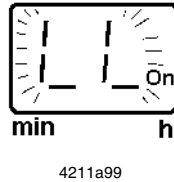

Fig. 28 Display of a low-level control
- In this case, the pump is not switched off immediately. The current lube cycle is completed. Upon expiration of the pause time, the pump cannot be started again automatically. The flashing display 'LL' is indicated, see Fig. 28.